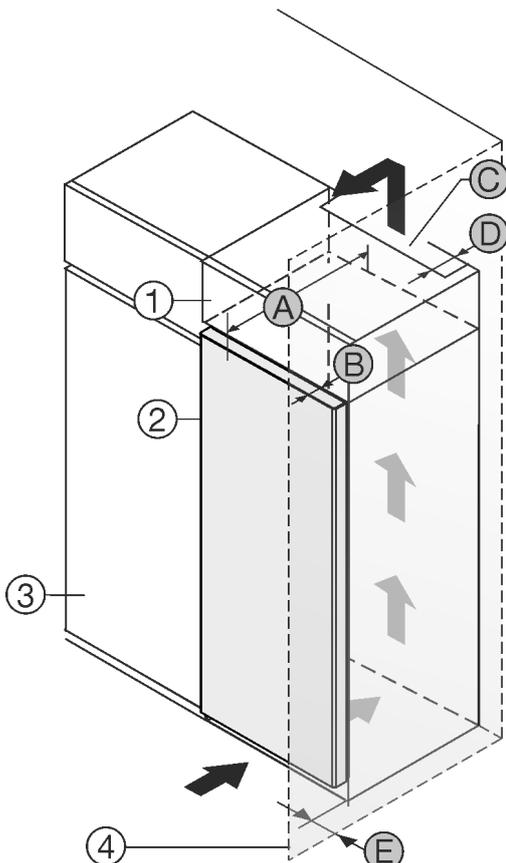

Fig. 1
Set up the appliance directly next to the kitchen cabinet Fig. 1 (3)*
Set up the appliance with a distance of 5 cm between the appliance and the kitchen cabinet Fig. 1 (3)*
There must be a ventilation shaft with depth Fig. 1 (D) at the back of the top cupboard over the entire width of the top cupboard.*
The cross section of the ventilation gap Fig. 1 (C) must be maintained below the ceiling.*
If the appliance is installed with the hinges next to a wall Fig. 1 (4), the distance between the appliance and the wall must be at least 40 mm. This is how far the handle protrudes when the door is open.*